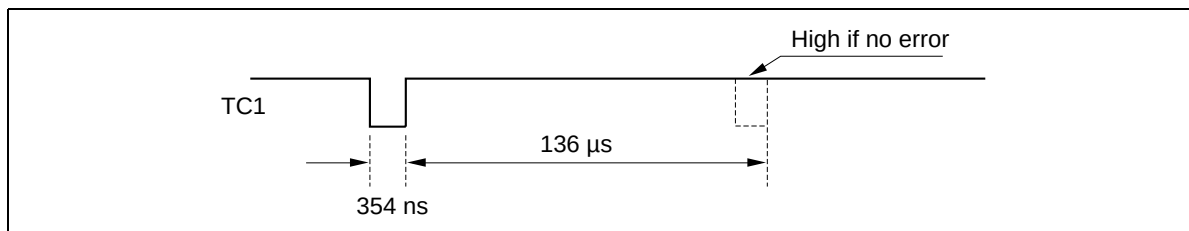

Figure 11 TC1 Timing (Standard Speed Playback)
**TC1:** This pin outputs a signal indicating whether each frame of data read from the disc contained an error. See figure 11 for the output timing.